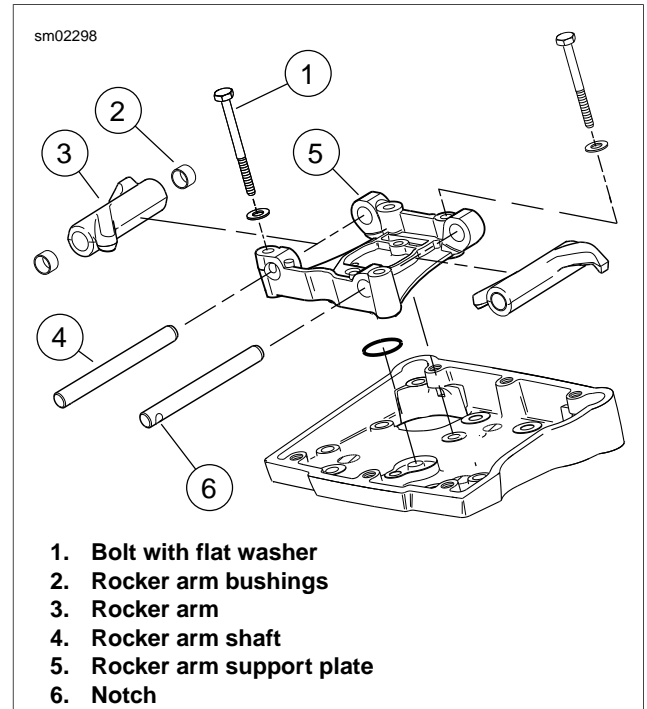

Figure 3-75. Rocker Arm Assembly
1. See Figure 3-75. Remove four bolts with flat washers (1) from the rocker arm support plate (5). The rocker arm shafts (4) on the push rod side (right) are notched to lock them in position.
2. Using a hammer and brass drift, tap left side of rocker arm shafts (4) so that the notched ends exit the rocker arm support plate (5) first. Mark the shafts so that they are installed in their original locations at time of assembly.
2. See Figure 3-75. Check rocker arms (3) for uneven wear or pitting where contact is made with the valve stem tips. Check for concave wear where rocker arms contact the push rod ends. Replace rocker arm if excessive wear is found at either location.
3. Verify that oil holes in rocker arms and rocker arm support plate (5) are clean and open.
4. Inspect rocker arm shafts (4) for scratches, burrs, scoring or excessive wear. Replace as necessary.